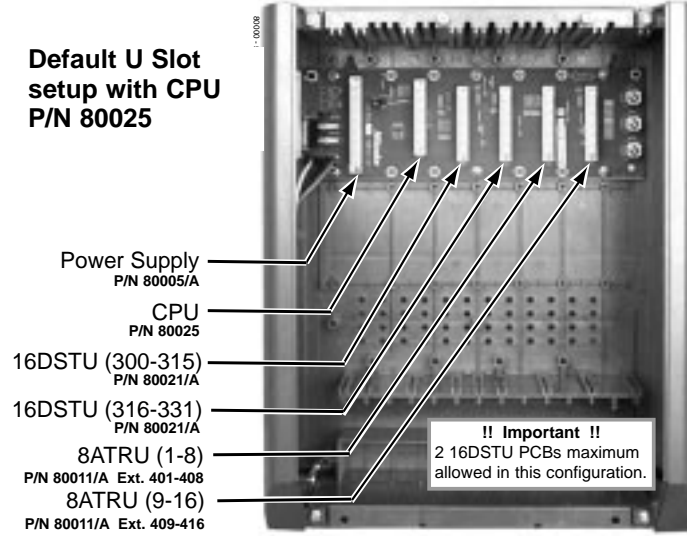

Figure 2-1 4 SLOT PCB LOCATION
Where to Install the PCBs in your U Slot System (Figures 2-1 and 2-2)
- When installing PCBs in a U Slot 4 slot system, follow Figure 2-1. You **must** install a 16DSTU in slot CN1.